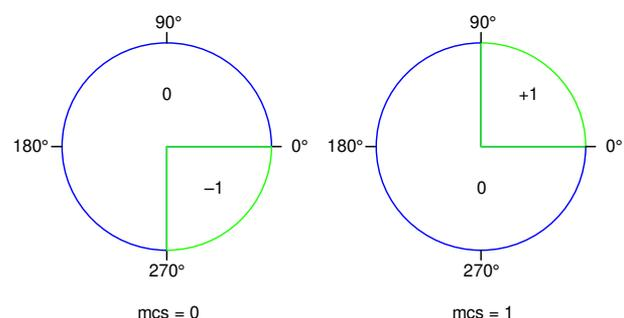

Figure 38: Multi-Cycle Counter Synchronization
Specifically, if mcs = 0 and 270° (768) \leq Sensor Angle $< 360^\circ$ (1023), the multi-cycle counter is preset to the value in the command - 1. If mcs = 1 and 0° (0) \leq Sensor Angle $\leq 90^\circ$ (256), the multi-cycle counter is preset to the value in the command + 1. Otherwise, the multi-cycle counter is preset with the value in the command, as shown in Figure 38.